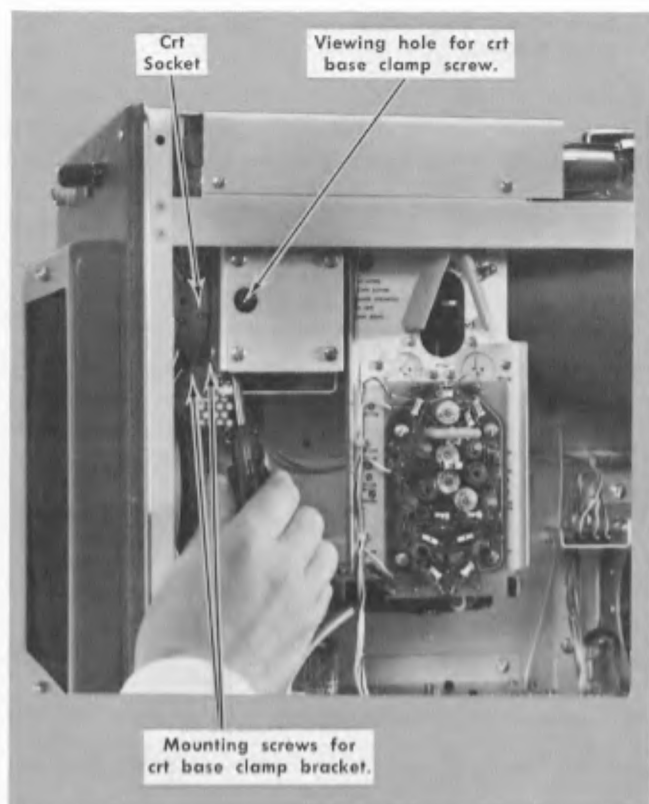

Fig. 4-4. Loosening the crt base clamp.
4. Using a phillips screwdriver, loosen crt base clamp (see Fig. 4-4) so that the crt base is loose in the base clamp.
If the crt face is not aligned with the front of the oscilloscope, use a  $\frac{7}{64}$ " hexagonal wrench to loosen the two sockethead mounting screws that fasten the base clamp to the mounting bracket (see Fig. 4-4). Move the base clamp and crt radially to align the face of the crt with the front panel of the instrument.